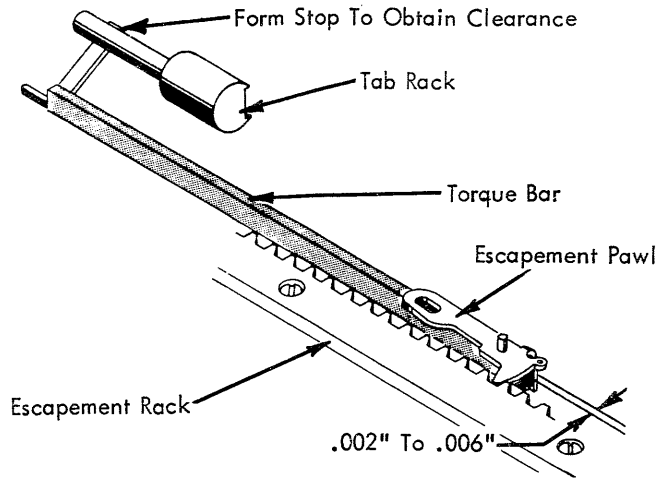

FIGURE 101. Torque Bar Stop (Old Style)
- b. Early - Form the torque bar stop located at the left end of the torque bar so that a clearance of .002" to .006" exists between the torque bar and the lug on the escapement pawl (Fig. 101).